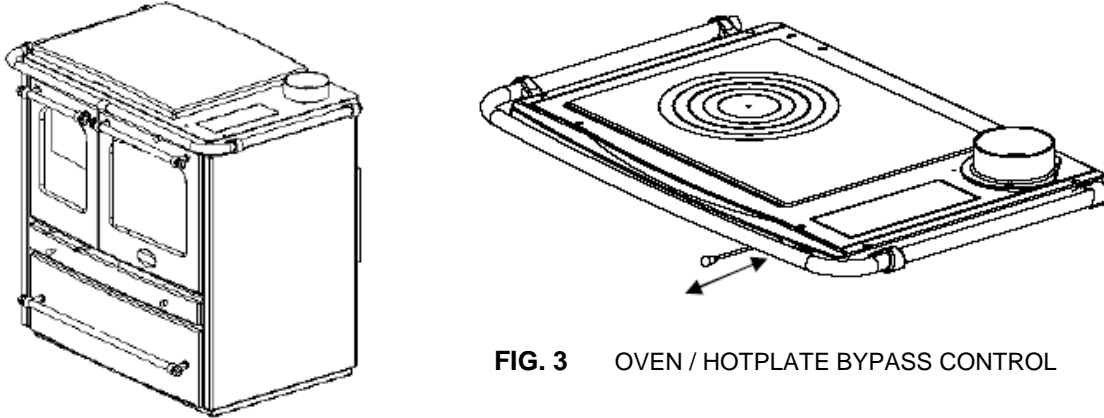

FIG. 3 OVEN / HOTPLATE BYPASS CONTROL
- OVEN / HOTPLATE CONTROL (FIG. 3)
5 C OVEN / HOTPLATE BYPASS CONTROL see FIG 3
This control is positioned on the front of the appliance as shown in the FIG. 3. It has two settings. The hot gasses generated by the burning fuel can be diverted using this control, to give greater heating to the hob or to the boiler. You must only use this control when you have a clean burning, established fire. Look at the smoke coming out of your chimney if you are unsure whether your appliance is burning cleanly. There is a small plate that has two symbols on it representing a frying pan and a casserole dish. The frying pan symbolises the hob and the casserole dish, the oven.